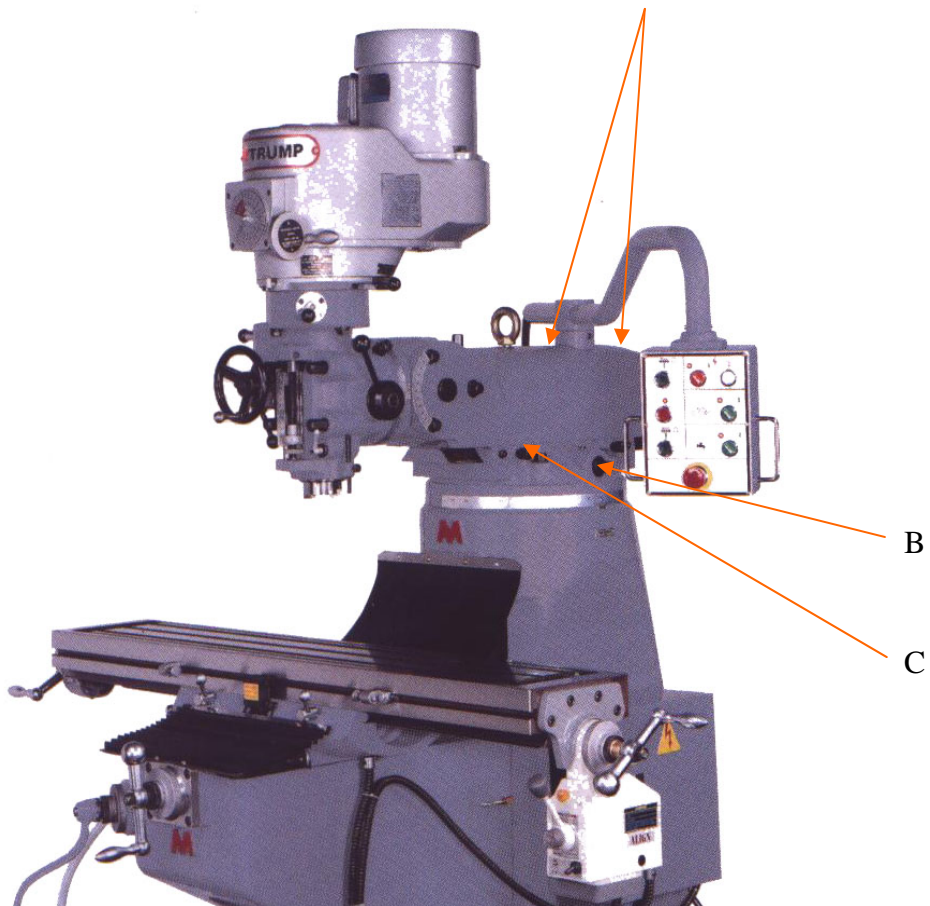

FIG6-10
6.2.1 Ram movement and swiveling (see figure 6-10):